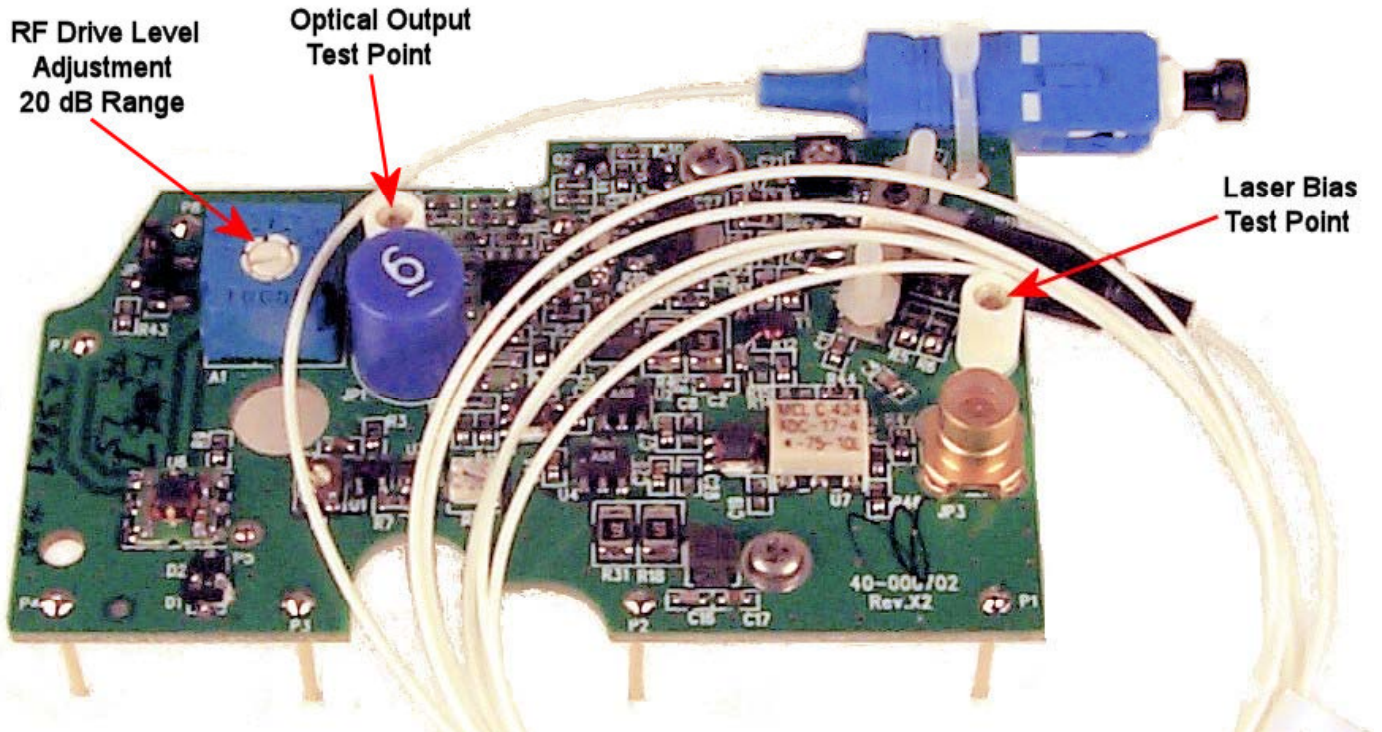

Figure 4 - All 7-OR-RT Test Points and Controls
Figure 4 - All 7-OR-RT Test Points and Controls
1. Find JP2 shown in Figure 4. The 7-OR-RT module is shipped with the ALERT ON mode.